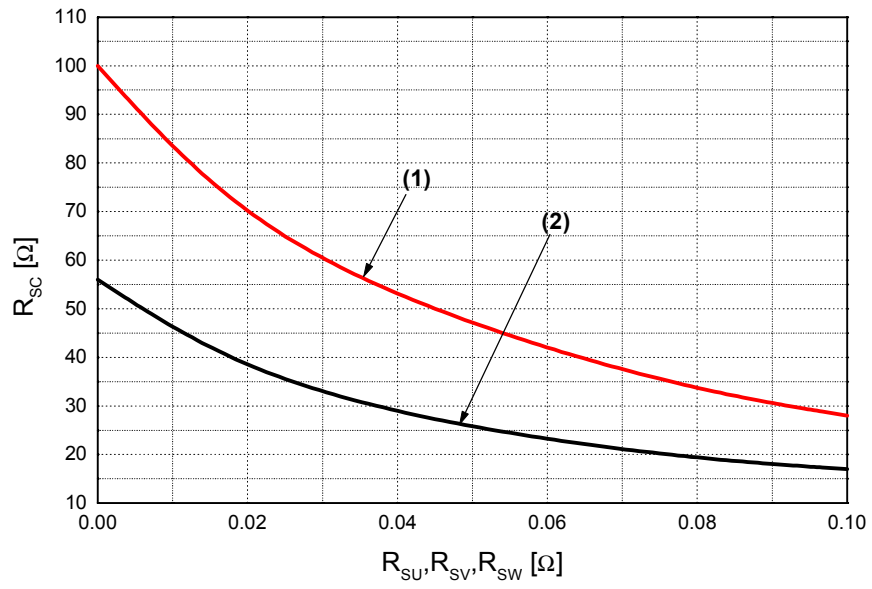

Fig. 6. R_{SC} Variation by change of Shunt Resistors (R_{SU} , R_{SV} , R_{SW}) for Short-Circuit Protection
5. Short-circuit current protection is functioning only at the low-sides. It would be recommended that the value of the external sensing resistor (R_{SC}) should be selected around 56 Ω in order to make the SC trip-level of about 22.5A at the shunt resistors (R_{SU}, R_{SV}, R_{SW}) of 0Ω. For the detailed information about the relationship between the external sensing resistor (R_{SC}) and the shunt resistors (R_{SU}, R_{SV}, R_{SW}), please see Fig. 6.